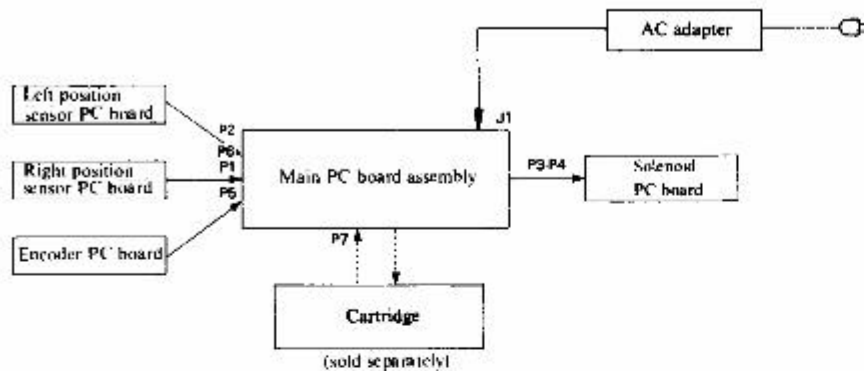

Figure 5-1
2) Fig. 5-1 shows the circuitry configuration of the KH-900.